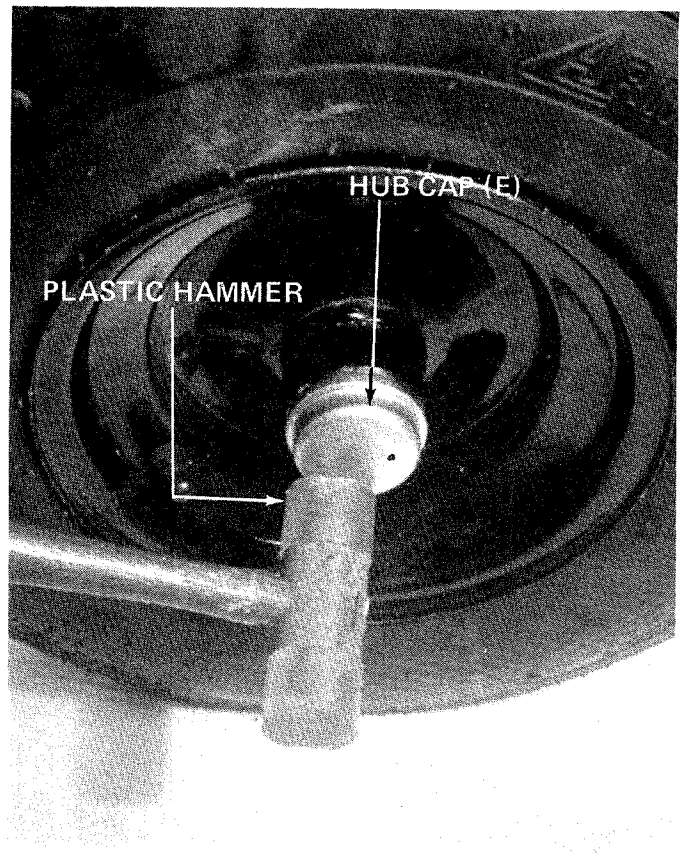

FIGURE 5
4. Place hub cap (E) in position on wheel and tap on with a plastic hammer. See figure 5.